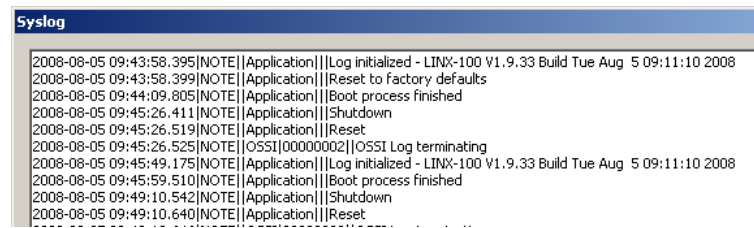

Figure 119: System log window.
- When the upload is finished, click on **Show System Log**. The system log window appears as shown in Figure 119.